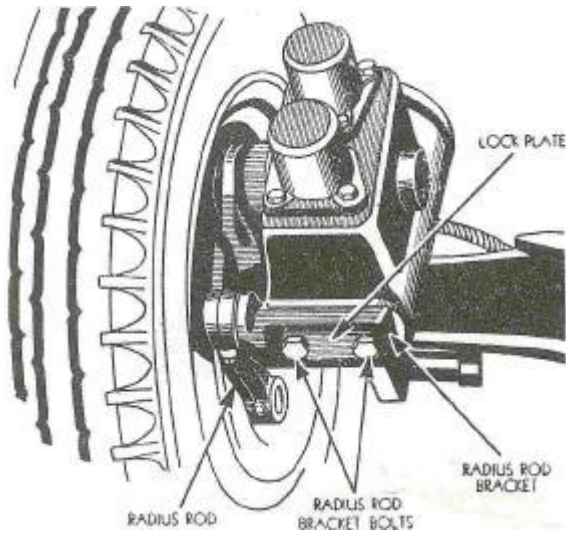

Fig. 68
- 2) Remove the two radius rod bracket bolts and lock plate, Fig. 68, grasp the radius rod and pull it and brake backing plate assembly off the spindle.